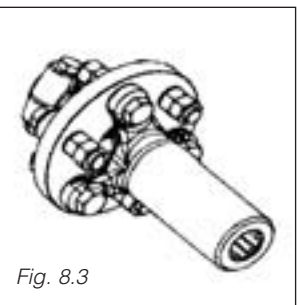

Fig. 8.3
1. Shock absorbing clutch dampens torsional vibrations and tunes the shaft to have critical speeds outside the operating range. (Fig. 8.3.).